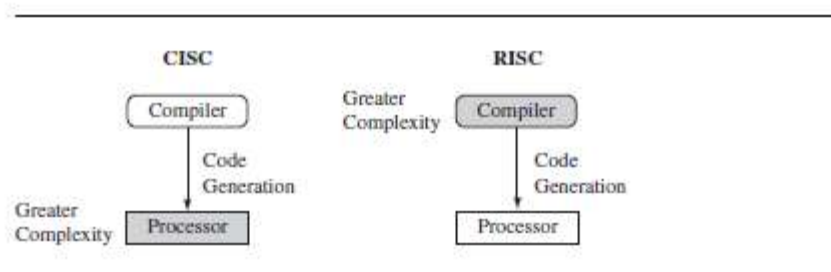

Figure 1.1 CISC vs. RISC. CISC emphasizes hardware complexity, RISC emphasizes compiler complexity.
- Figure 1.1 illustrates these major differences.